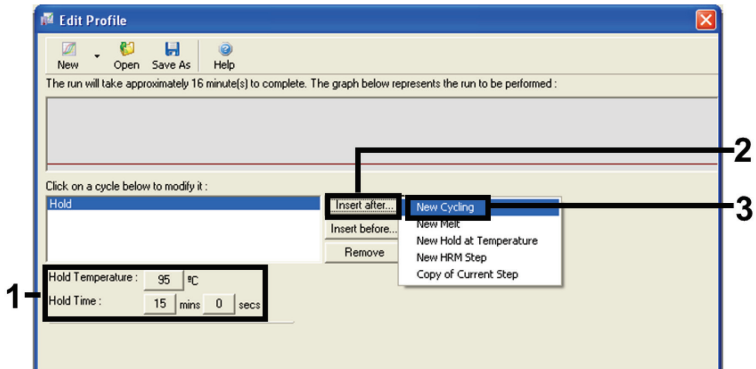

Figure 5. Initial incubation step at 95°C.
- Set the value in the **Hold Temperature** field to **95°C** and the value in the **Hold Time** to **15 mins 0 secs**. Click **Insert After**, then select **New Cycling** (Figure 5).